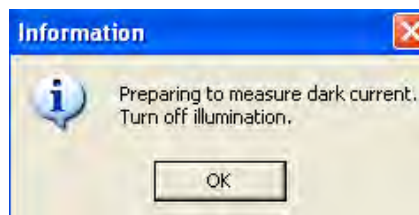

Figure 6. Dark Subtraction Window
10. If dark subtraction was selected, the following message appears (see Figure 6). **Do not press OK yet**